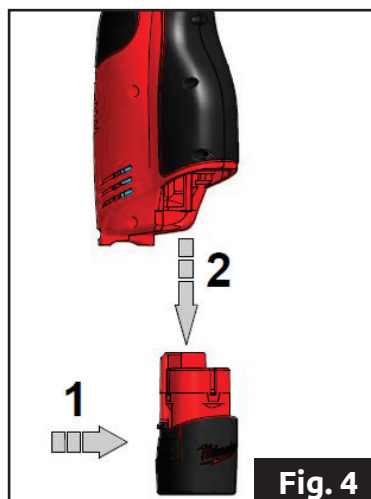

Fig. 4
Push in (1) (fig.4) the two release buttons and then remove the battery (2) (fig.4).